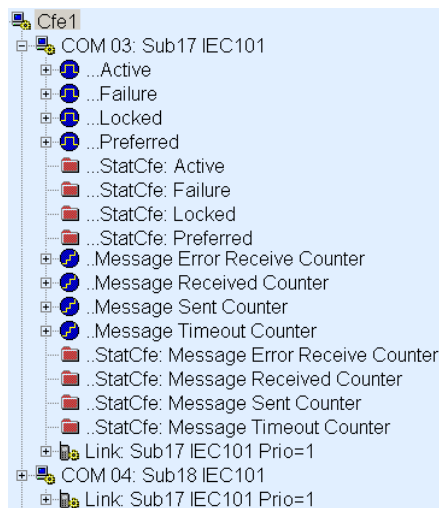
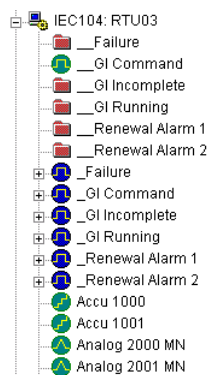

Figure 1-2.4: Typical CFE (Child) Instances
Figure 1-2.5: Typical RTU Instances (Extract)
- The Process Interface branch (PI) that contains the instances CFE, COM ports, links, RTUs and RTU data points as well as optional device status information. The hierarchy of the process interface instances can be seen in Figure 1-2.4 and Figure 1-2.5 .